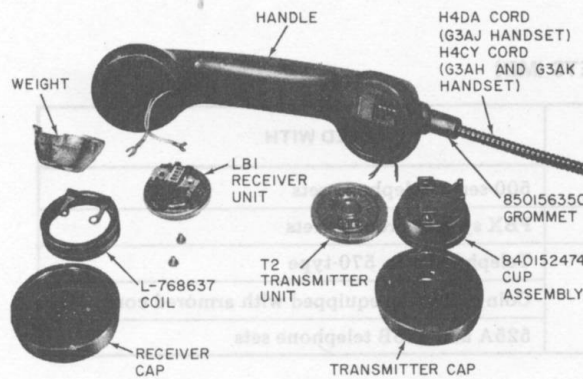

Fig. 3—G3AH, G3AJ, and G3AK Handsets
2.17 ♦The G3AH, G3AJ, and G3AK handsets (Fig. 3) are intended for use on coin telephones. The G3AH and G3AK on single-slot coin telephones and the G3AJ on multi-slot coin collectors. These handsets contain an LB1 receiver unit and L-768637 coil (Fig. 3) which provides an external magnetic field for inductive coupling to certain types of hearing aids. Each handset also contains a zinc weight mounted in the receiver end of the handset.♦